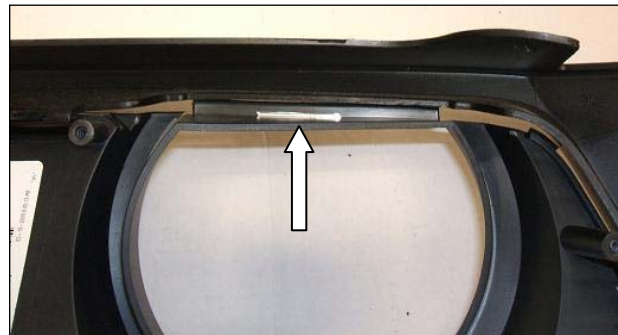

Figure 10
- In the upper part of each fog lamp opening, unhook the Grille from the surround as shown in Figure 10.